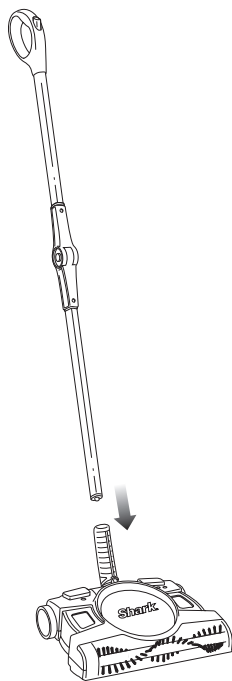

Fig. 2
- 2** Insert the Shark® Backsaver™ folding handle you just assembled into the base. You should hear the locking tab click into place. (**fig. 2**)